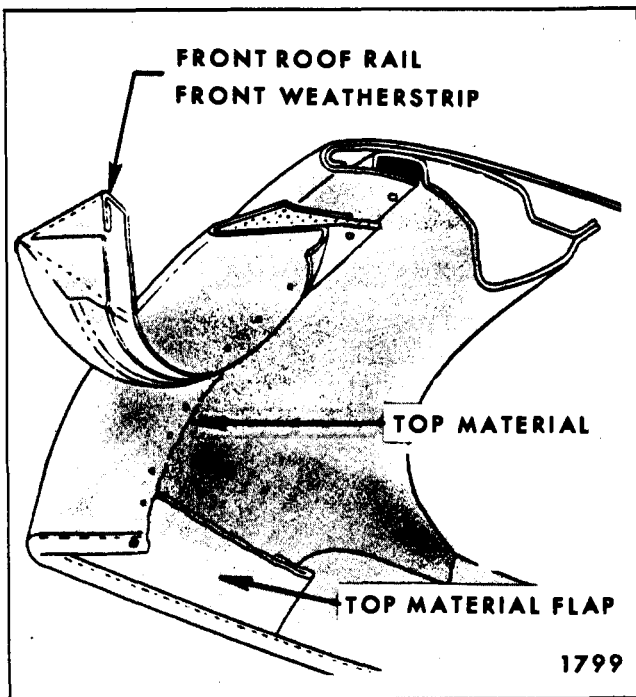

Fig. 12-12-Top Cover at Front Roof Rail
19. Lower top and complete tacking of top cover to front roof rail. Trim off excess material (Fig. 12-12).
14. Lower top and complete tacking of top cover to front roof rail. Trim off excess material (Fig. 12-12).